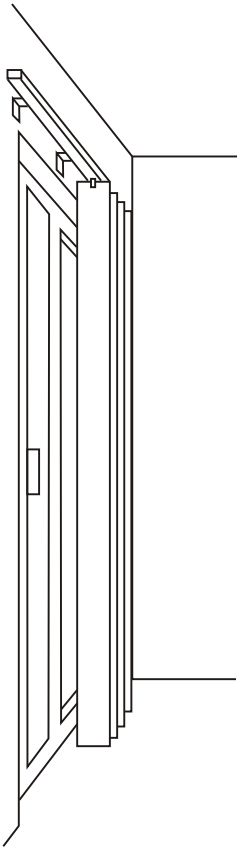

Figure 1
Step 1 Outside Mount (figure 1)